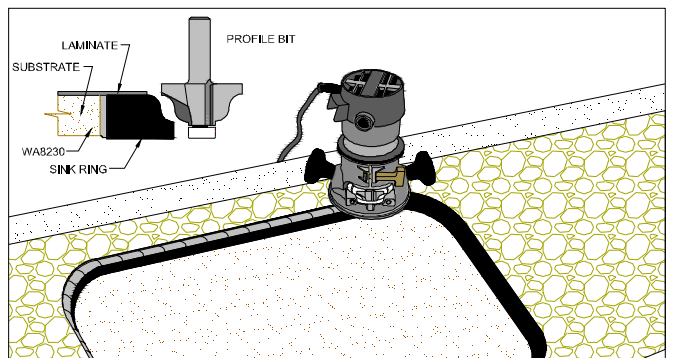

Figure 29D
- Route desired profile. (FIG. 29D)